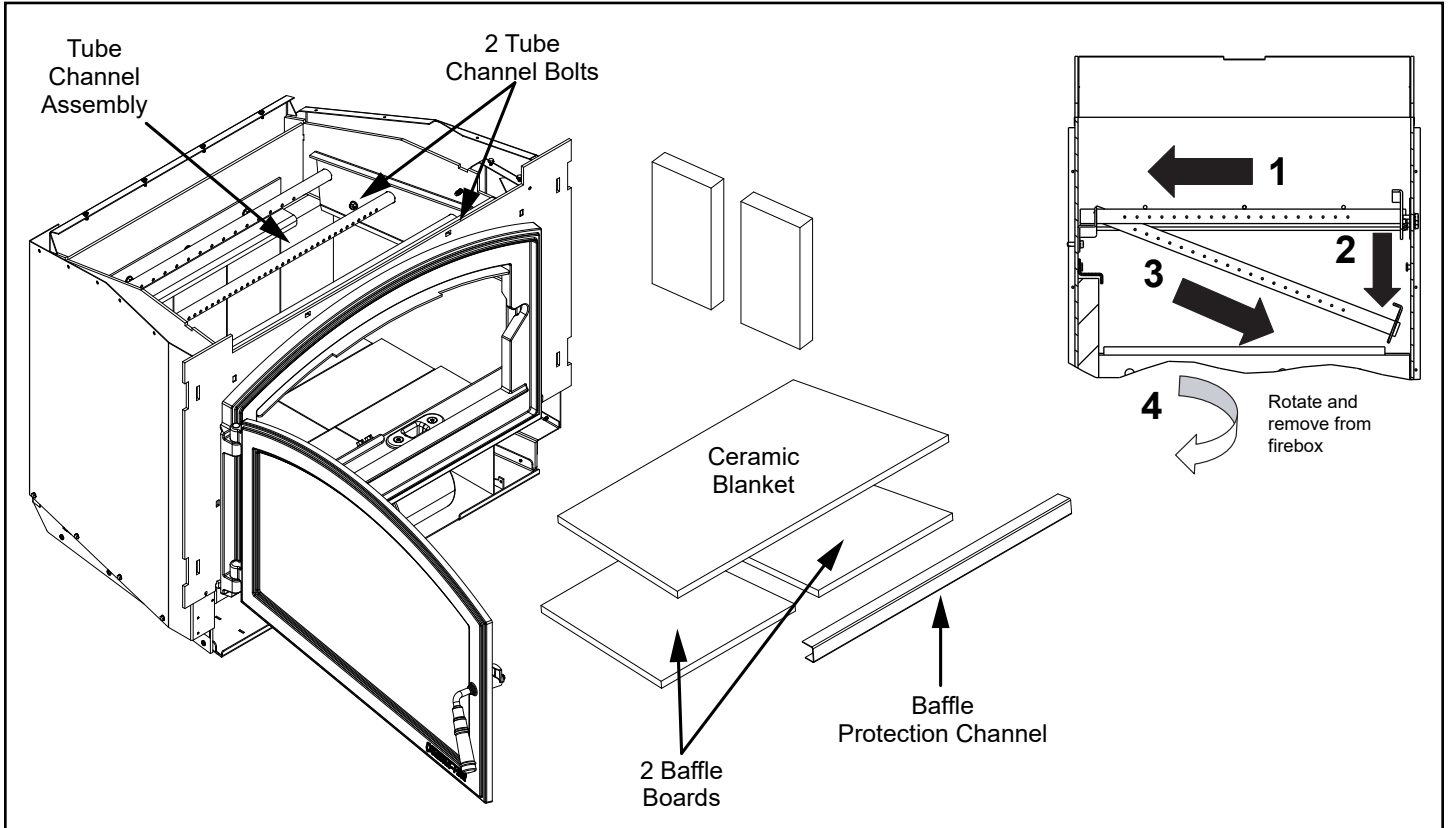

Figure 21.1
4. Slide tubes all the way to left. Drop the right side down, then slide the tube back to right (**Figure 21.1**).